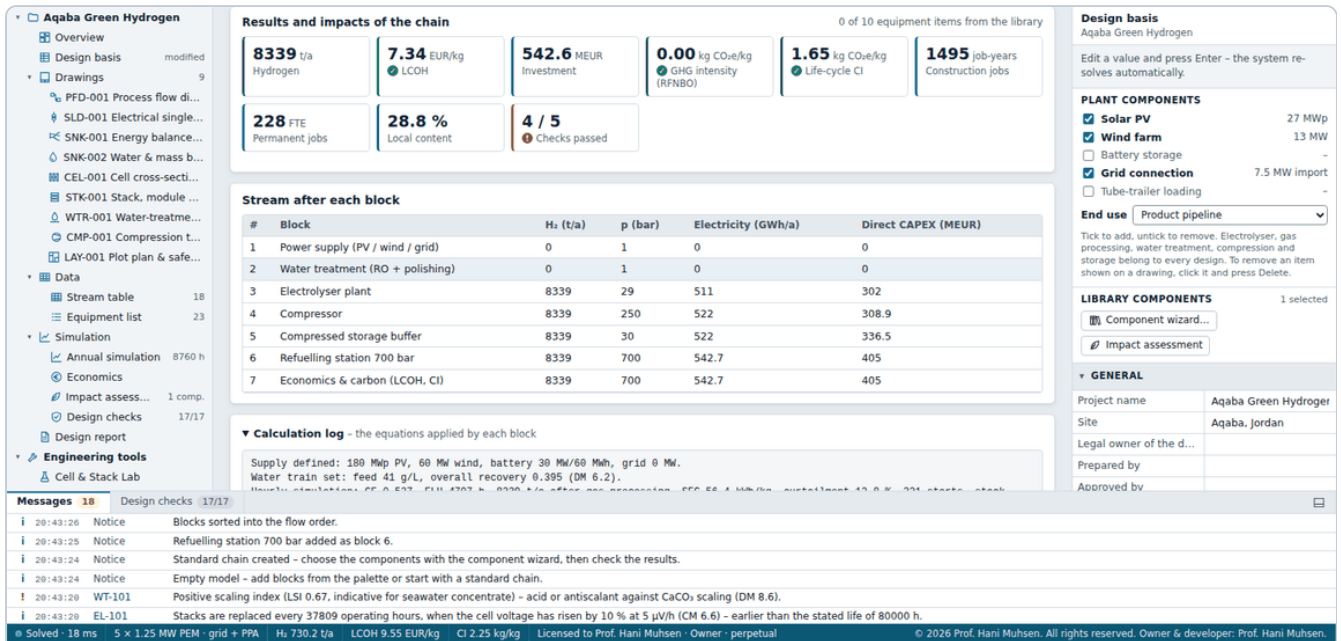

Figure S.11 – Results of the chain: key figures, stream after each block and calculation log.
- Press **Run model**: the key results, the stream after each block and the calculation log appear (Figure S.11).